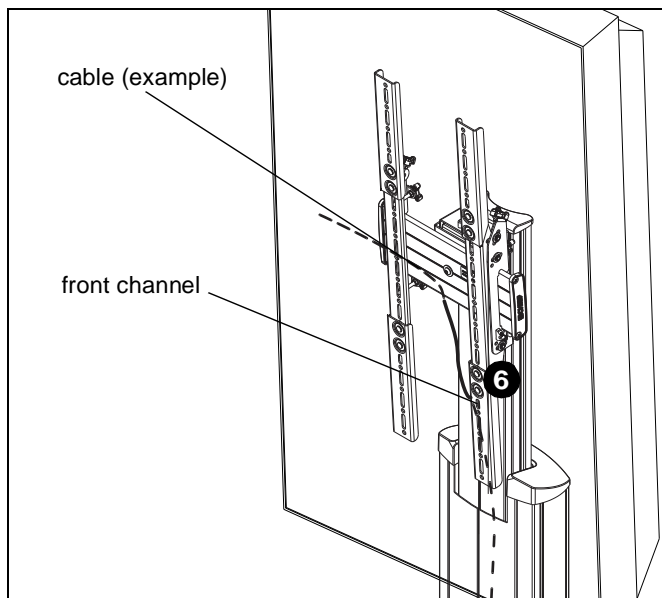

Figure 9
6. Route cables from display through front channel of column assembly. (See Figure 9)